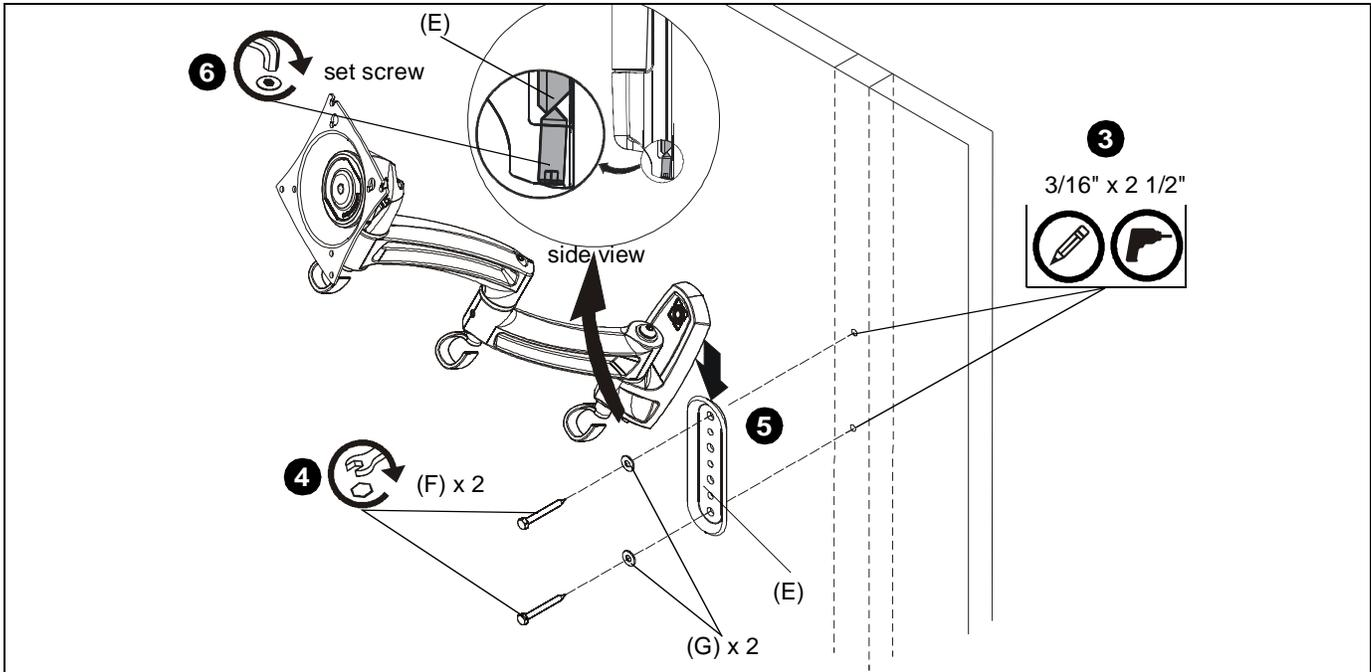

Figure 5
3. Use wall bracket to mark and drill two 3/16" x 2 1/2" holes in wall at desired mounting location. (See Figure 5)
4. Use two 1/4-2 1/2" hex head lag screws (F) and two 1/4" washers (G) to install wall bracket onto wall. (See Figure 5)
5. Hang monitor arm (A) over wall bracket. (See Figure 5)
Secure monitor arm to wall bracket by tightening set screw. Ensure set screw engages back side of wall bracket (E) to properly secure mount. (See Figure 5)